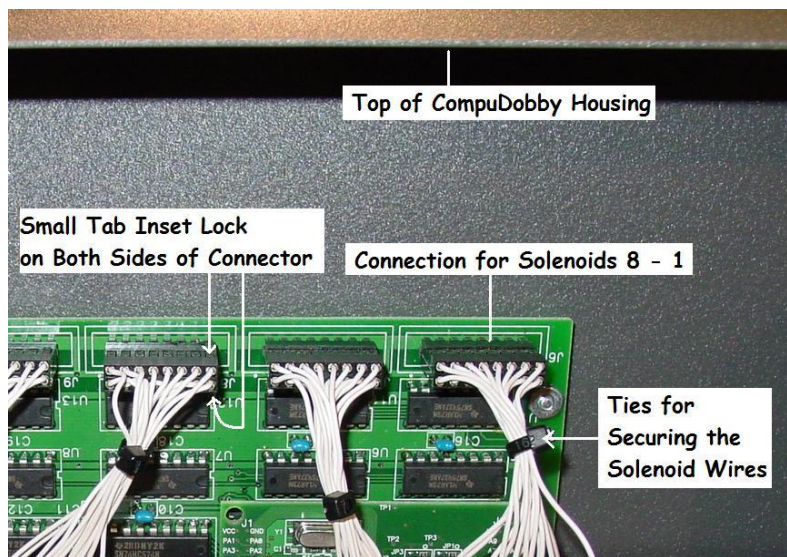

Figure 3 – Solenoid Connections
8. Follow the path of the two wires leading from the Solenoid up to the black rectangular Connector at the green board, snipping the little ties that bundle the wires as you proceed. *See Figure 3.*